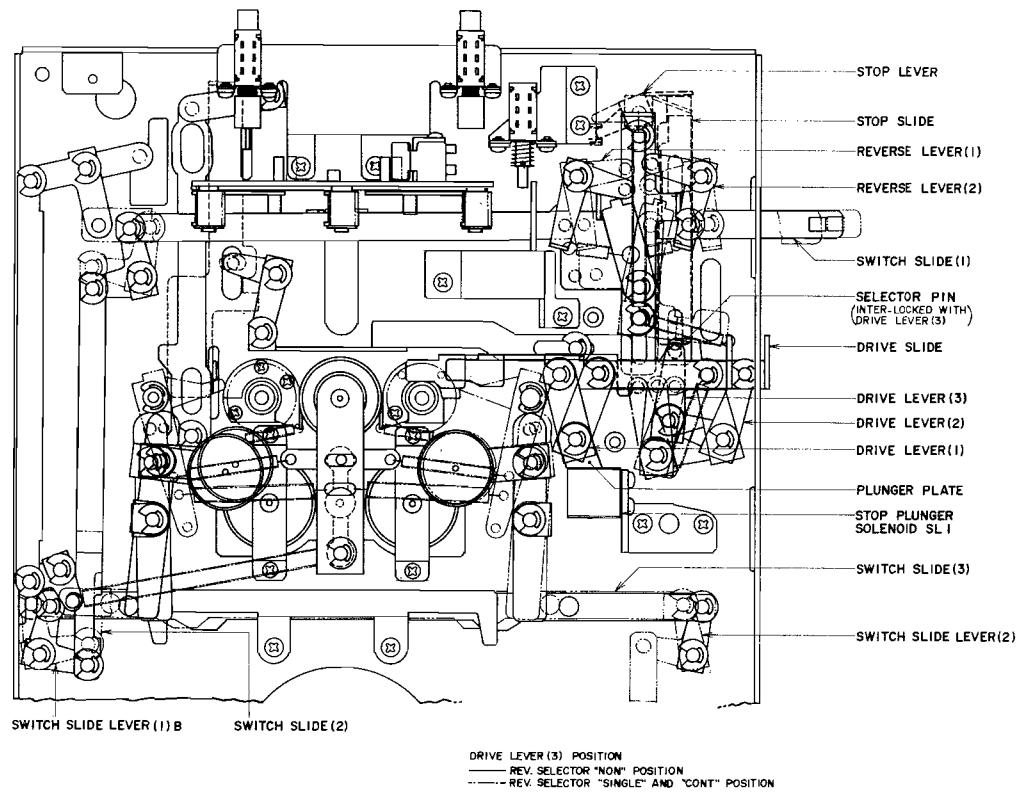
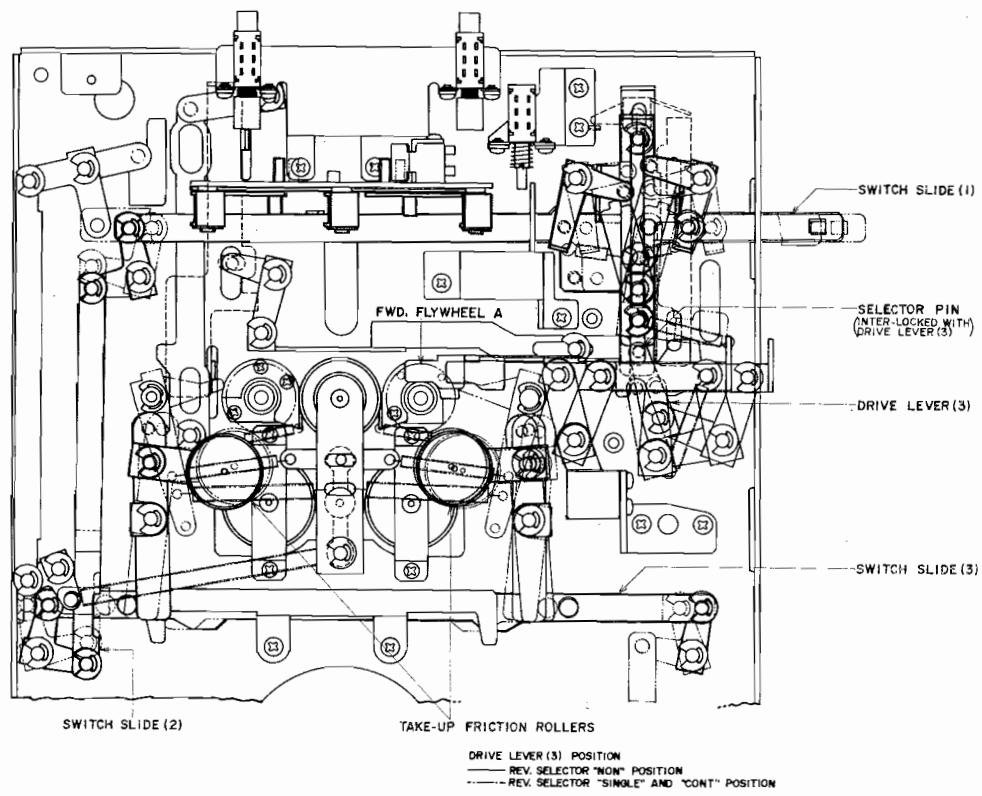

Fig. 31 Reverse Selector : NON → From REV to STOP Operation
Fig. 33 Reverse Selector : CONT \leftrightarrow From REV to FWD Operation
(Refer to Figs. 31 and 37)
- b) At this time, as shown in Fig. 31 drive lever (3) must move further to the right than in the case of FWD playback. (This is because as shown by the reverse side, Fig. 31, the head plate slide and mode selector operation by means of the switch is the result of this movement to the right). This operation is for the purpose of not allowing drive lever (3) selector pin to depress the reverse slide.
- d) When this happens, drive levers (2) and (3) which are interlocked with the drive slide work as shown in Fig. 31 and drive lever (3) selector pin kicks the stop slide and the kicked stop slide depresses the stop lever, causing the Keyboard Block to release and the machine to release and the machine to enter STOP mode from REV mode.
- c) When set to REV recording or playback mode, drive lever (3) selector pin is brought to and stabilized directly above the stop slide by means of the Mode Selector (Refer to Fig. 31).
- d) When REV tape travel ends, drive lever (3) selector pin depresses the stop slide and the Keyboard Block is released.
- 4) REV → FWD → REV (Refer to Fig. 33)
- a) When REV mode was effected from FWD mode as shown in Fig. 33, drive lever (3) selector pin moved to directly above the reverse slide. At the end of REV mode, when continuous kick operation begins the selector pin depresses the reverse slide and switch slides and switch slides (1), (2), and (3) change to FWD position.
- * Movement of slide switches (1), (2), and (3) is indicated by the ---line in Fig. 33.
- b) Switch slides (1), (2) and (3) operate the head plate slide and the head is lowered, thus effecting FWD mode.